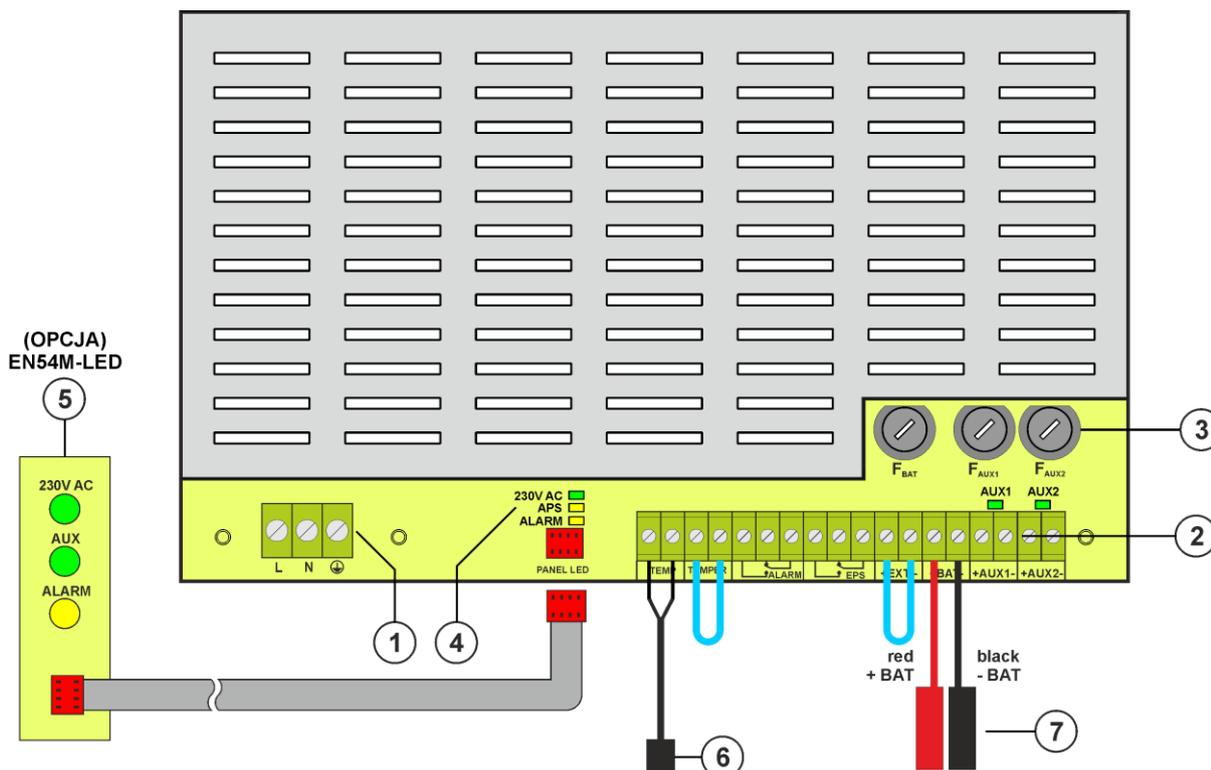

Fig. 2. View of the PSU module.
Table 1. Elements of the PSU module (Fig. 2).
①	230 V supply connector with a terminal for connection of a protective conductor
②	<p>Terminals:</p> <p>TEMP – input of the battery temperature sensor</p> <p>TAMPER – input of the microswitch tamper Closed input = no indication Open input = alarm</p> <p>ALARM – technical output of collective failure of the PSU - relay type</p> <p>EPS – technical output of AC power failure indication open = AC power failure closed = AC power - O.K.</p> <p>EXTi – external failure input Closed input = no indication Open input = alarm</p> <p>+BAT- – terminals for connecting the battery</p> <p>+AUX1- – AUX1 power output (- AUX=GND)</p> <p>+AUX2- – AUX2 power output (- AUX=GND)</p> <p>CAUTION! In Fig.2 the set of contacts shows a potential-free status of the relay, which corresponds to power supply failure.</p>
③	<p>Fuses:</p> <p>F_{BAT} – fuse in the battery circuit,</p> <p>F_{AUX1} – fuse in the AUX1 output circuit,</p> <p>F_{AUX2} – fuse in the AUX2 output circuit,</p> <p>The fuse values are given in table 4 - "Electrical parameters".</p>
④	<p>LEDs – optical indication:</p> <p>230 V AC – voltage in 230 V AC circuit</p> <p>APS – battery failure</p> <p>ALARM – collective failure</p> <p>AUX1 – AUX1 output voltage (at the AUX1 connector)</p> <p>AUX2 – AUX2 output voltage (at the AUX2 connector)</p>
⑤	PANEL LED – the EN54M-LED external optical indication panel
⑥	Battery temperature sensor
⑦	Battery connectors; positive: +BAT = red, negative: - BAT = black
5. Install the batteries in a designated area of the enclosure. Connect the batteries with the PSU paying special attention to the correct polarity. Batteries must be connected in series using the special cable (included). Attach the temperature sensor to any of the batteries with mounting tape (included). Screw the temperature sensor to the "Temp" terminals of the power supply (Figure 2, point 6). Insert the sensor between the batteries.